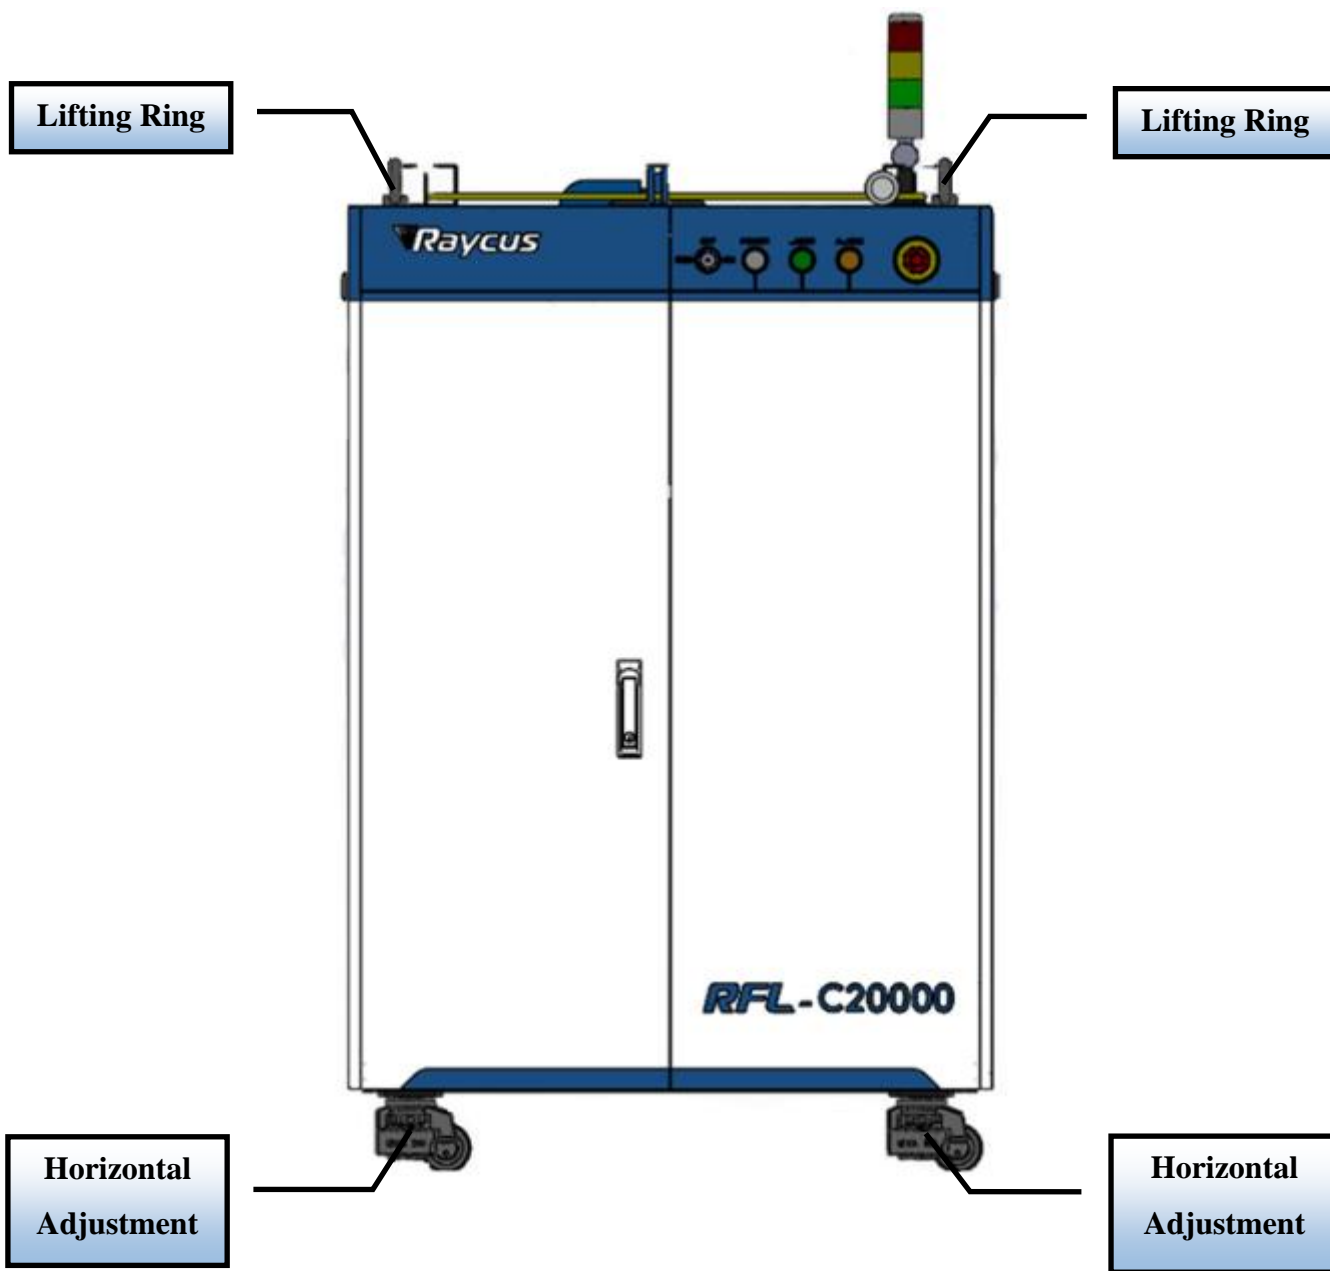

Figure 4 Laser lifting ring and horizontal adjustment caster
- i) Customers can use the four lifting rings at the top of the product or the four casters at the bottom to lift or move the product. Before lifting the laser source, make sure that the four lifting rings are installed firmly and reliably. When lifting the laser source, be sure to use the four lifting rings; when pushing the laser source, please make sure that the support block at the bottom of the horizontal adjustment caster is off the ground. After the laser source is positioned, adjust the support block to make it contact the ground to avoid displacement of the laser source. As shown in Figure 4(Take C20000TZ as an example).